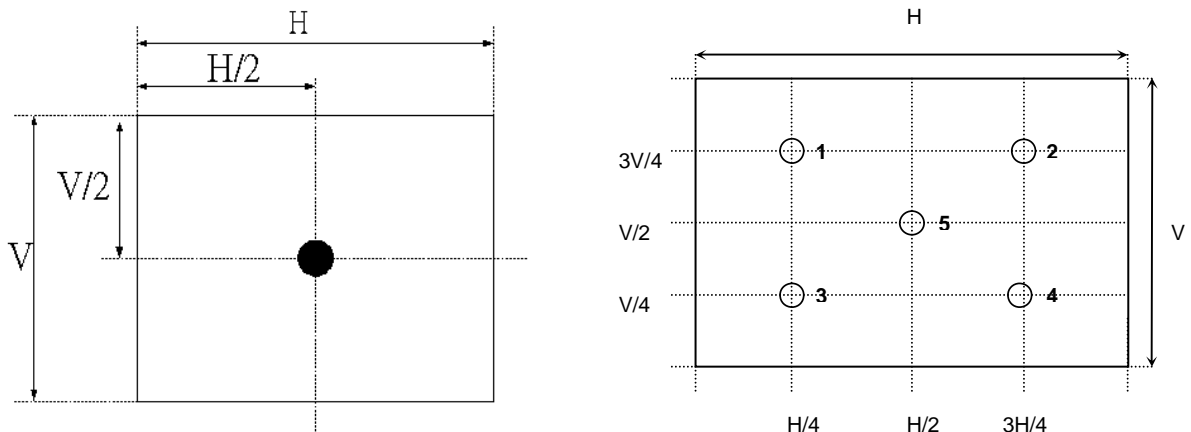

Fig.4-2 Optical measurement point
2. Surface luminance is luminance value at point 1 across the LCD surface 50cm from the surface with all pixels displaying white. From more information see Fig. 4-2. When $V_{DDB} = 24V$, $I_{DDB} = 7.5A$. $L_{WH} = L_{on1}$, Where L_{on1} is the luminance with all pixels displaying white at center 1 location.